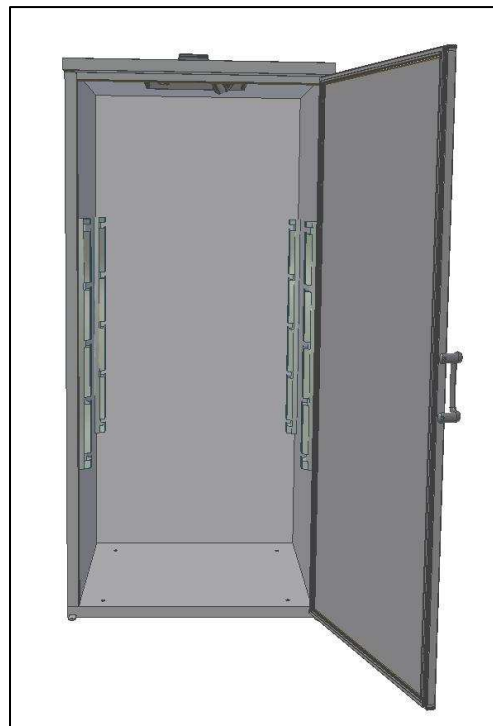

Fig. 13
- Insert **grids supports** on each side, right and left, in the interior of the cabinet (Fig.13);